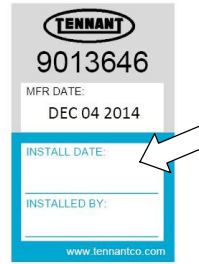

FIG. 98
4. Fill in the installation date on the new cartridge label (Figure 98).